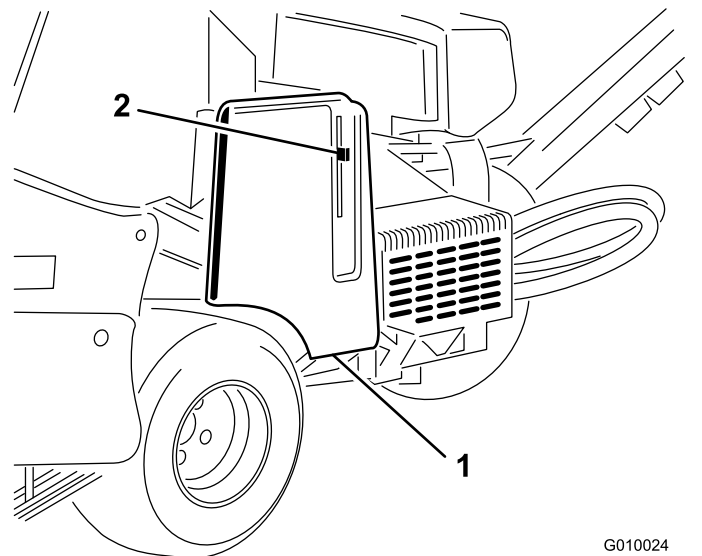
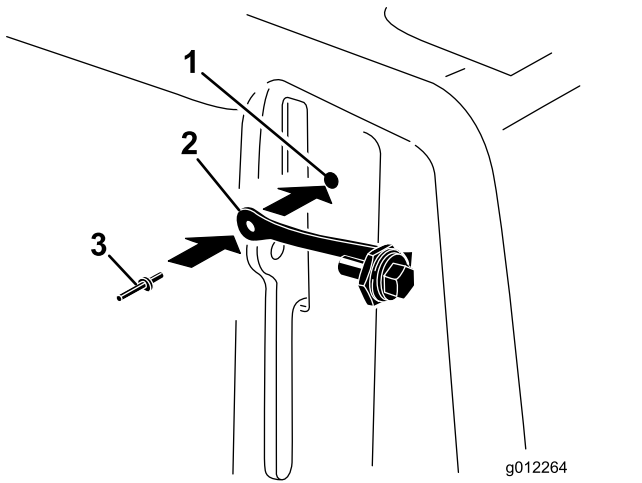

Figure 16
Figure 17
1. Locate the hole in the belt cover next to the slot for the latch lever (Figure 16 and Figure 17).
2. Secure the lanyard assembly to the hole in the belt cover with a pop rivet (Figure 17).